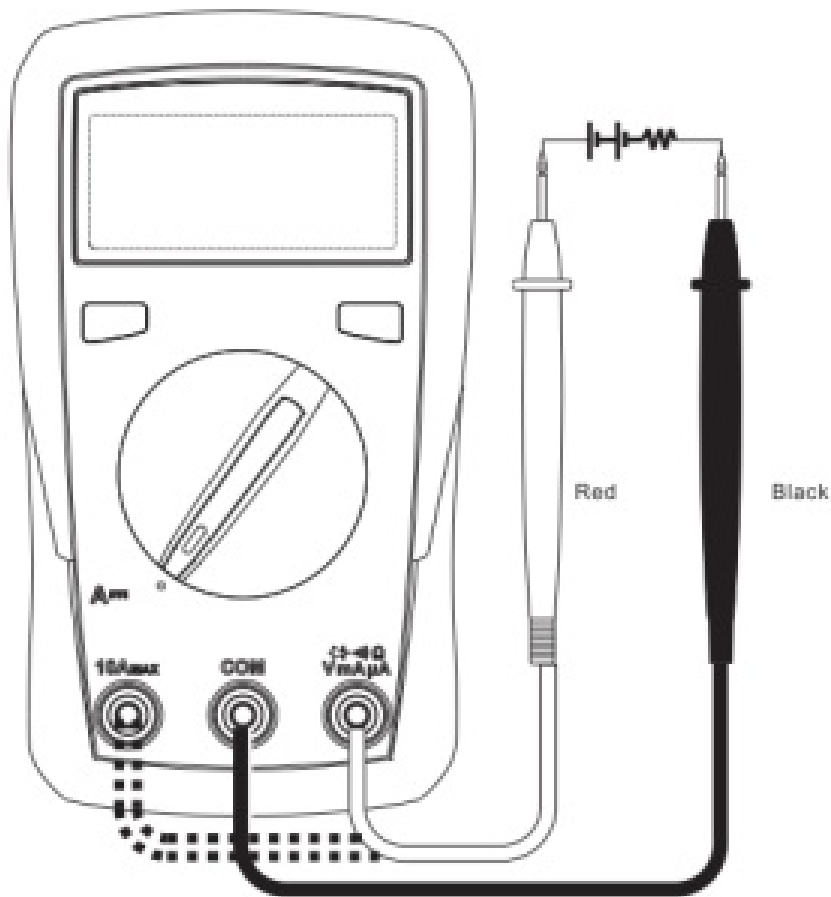

Fig 3
DC measurement (see Figure 3)
AC measurement (only for UT33A+, see Figure 3)
2. Please refer to Section 6 “DC measurement (see Figure 3)”